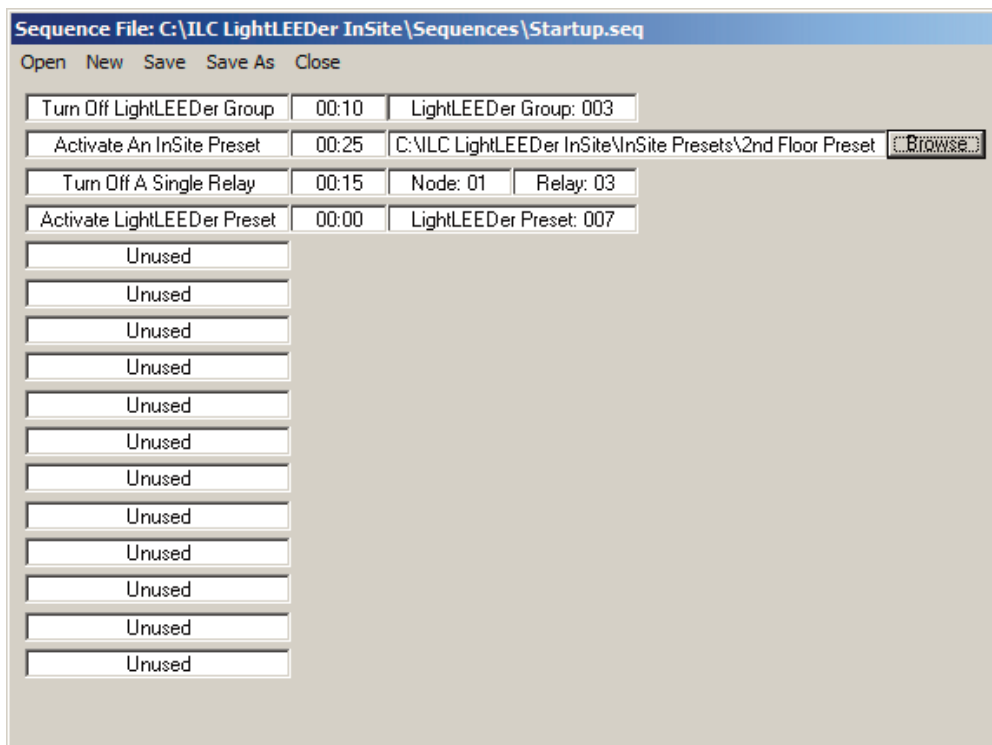

Figure 2.17 Defining a Sequence
2. Select the first unused control, and then select the control desired as shown in figure 2.17.